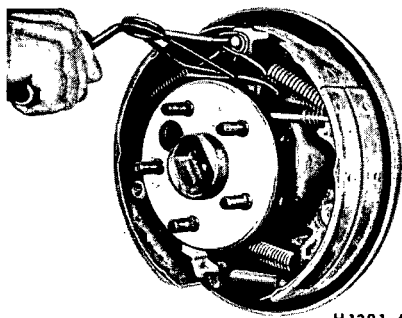

FIG. 8 Retracting Spring Installation
6. Install the primary shoe to anchor spring (Fig. 8).
anchor spring with the tool shown in Fig. 8.